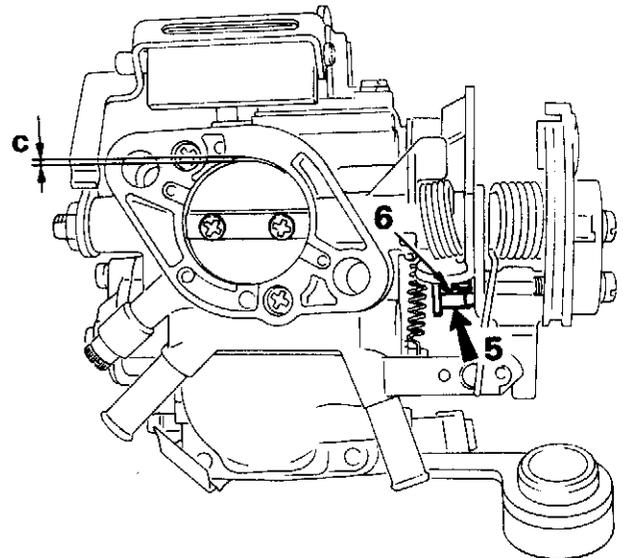

Fig. 14.6 Fast idle adjustment (Sec 4)
29 Adjust as necessary by turning the fast idle adjustment screw (6) in Fig. 14.6 in the appropriate direction.